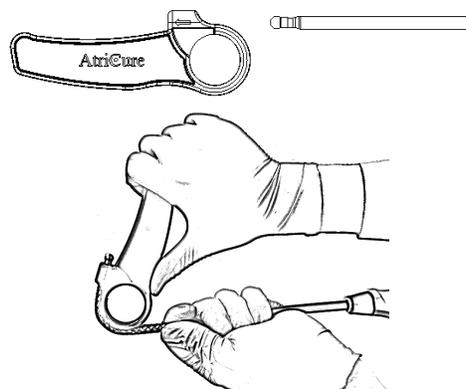

FIGURE 4: FORMING THE SHAFT FLEXIBLE PORTION
- 6) Insert the PROBE Ball Tip through the TOOL Barrel in the direction of the Insertion Arrow, as illustrated in Figure 4.
- 7) Rotate the TOOL so the Shaft is rolled into the Bending Channel, as illustrated in Figure 4, until the desired bend angle is achieved.